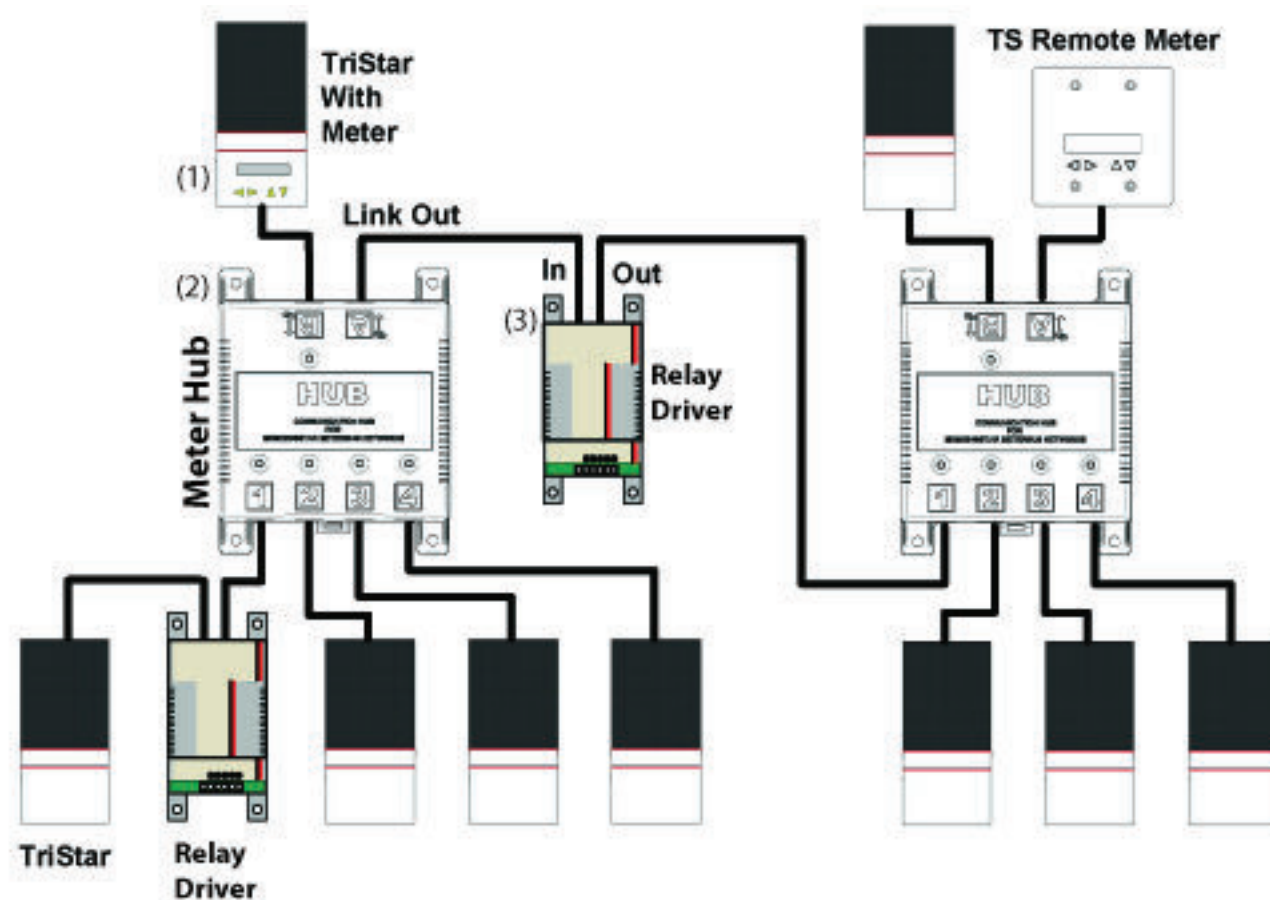

Figure 27. Morningstar MeterBus™ Large, Multiple Hub Network Diagram 2
Device power requirements will sometimes call for a network setup as illustrated in Figure 27. This multiple hub network connects hubs in a different manner than in Example #4. Since the TriStar (with Meter) can only power up to three devices (Meter, Hub, Relay Driver - denoted 1 through 3 in the diagram), the output link of the Relay Driver cannot be connected to the input of the second hub. Another unit that provides power (i.e. TriStar) is used to power the second hub and TS Remote Meter. To network the two hubs, the output link of the Relay Driver (3) is connected to one of the isolated ports on the second hub.
Figure 27 illustrates only one example of the way these 14 units can be networked together.